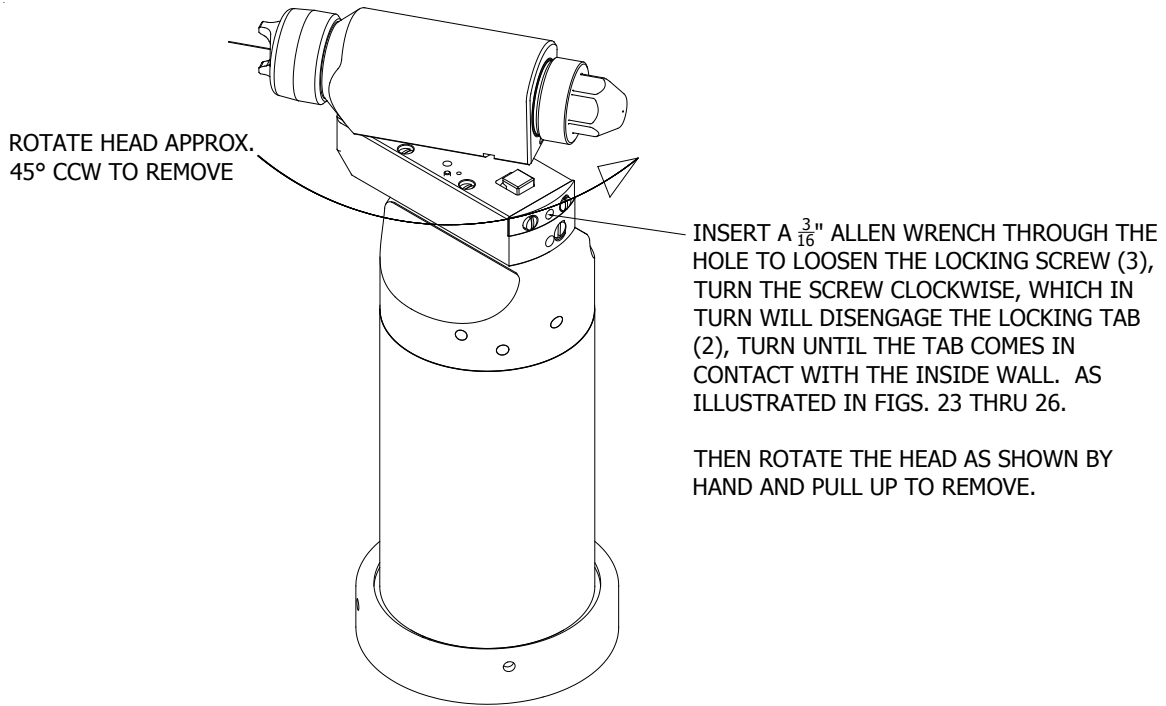
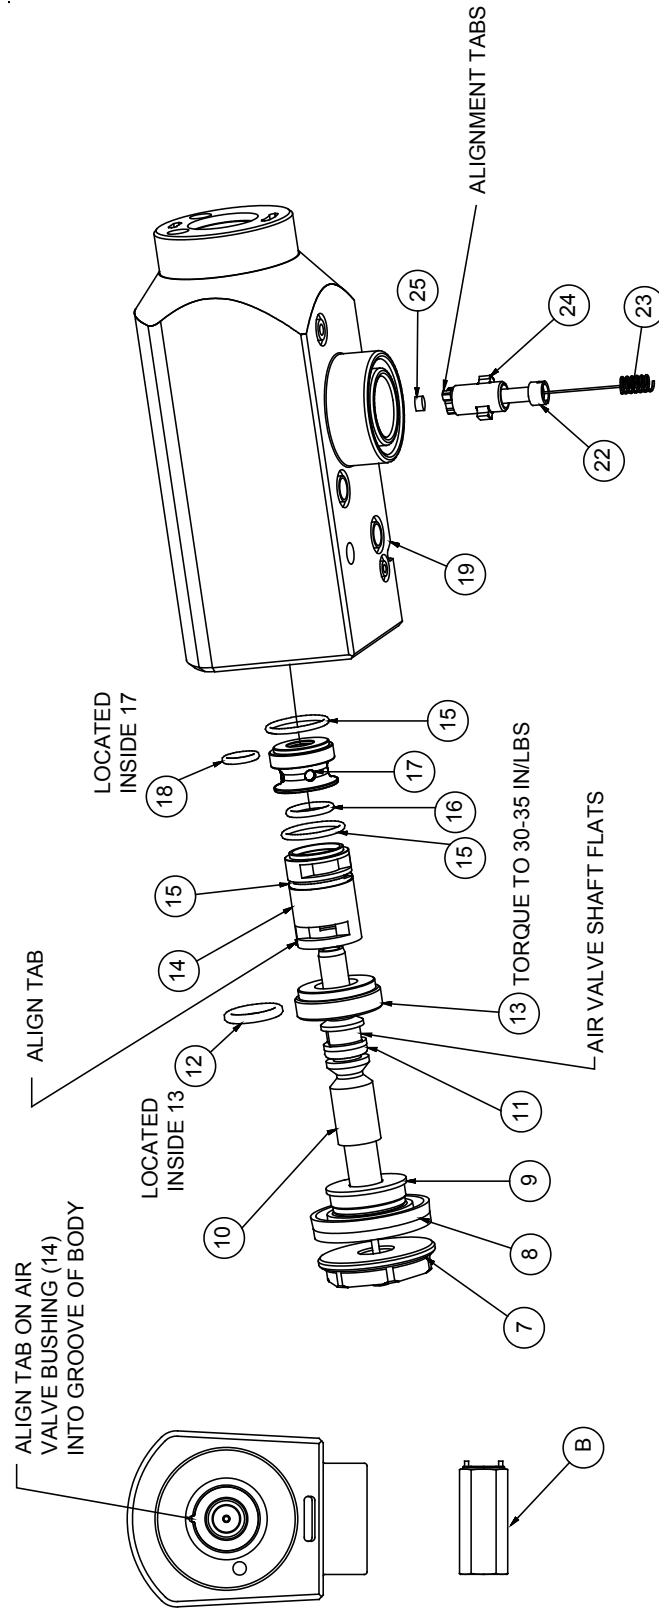
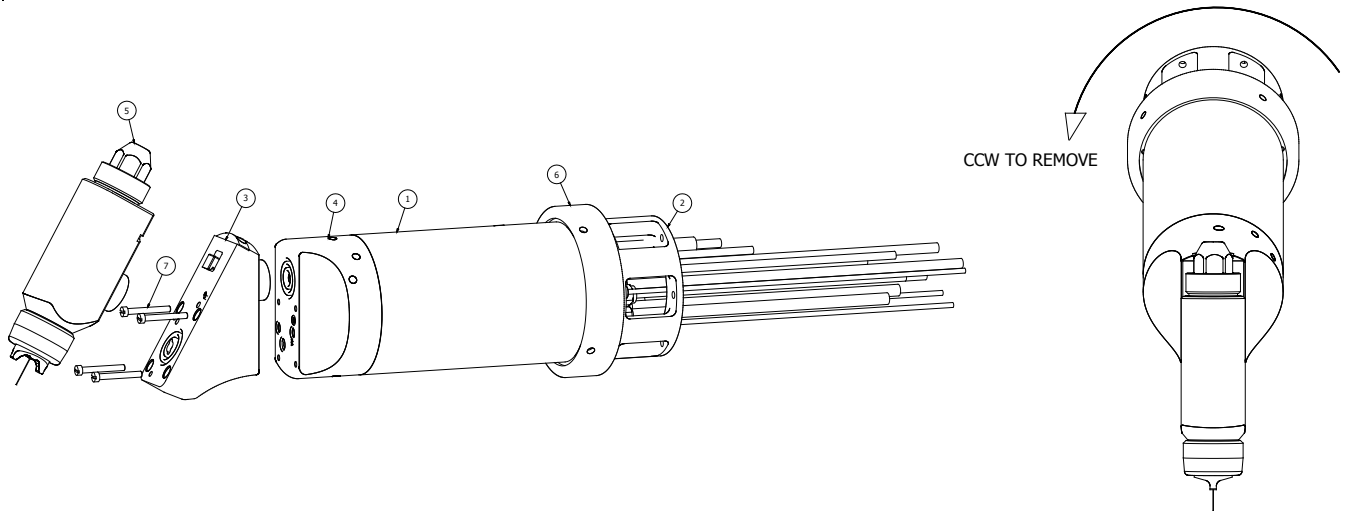

Figure 13a: Spray Head Removal
Figure 14: 79138 Evolver 303 Dual Purge Applicator Head Assembly
Figure 15: Evolver 303 Dual Purge 60° Single Head Applicator Assembly
Applicator Cleaning/Service (See Figures 13a and 13b)
The spray head can be removed from assembly as shown in Figure 13a for cleaning and service.
> At assembly, apply a small amount of dielectric grease to grooves in spray head and valve manifold to reduce high voltage breakdown. Excessive grease will not allow spray head [5] to seat fully against mounting block assembly [3] (see Figure 15).
(See Figures 13a, 13b, 14, and 15)
15. Re-attach spray head to manifold block by engaging the connection plug [24] (Figure 14) into the mounting block cavity [3] (Figure 15), and turn clockwise until head contacts stop pin on the block, as shown in Figure 13a.
16. Secure with locking tab by turning screw counter-clockwise (see Figure 13a).
(See Figure 14)
6. O-rings [12] and [18] must be installed inside their mating parts (see Figure 14).
8. Reassemble the remaining parts as shown in Figure 14 making sure that the alignment tab on the bushing [14] lines up with the align groove in the body [19].
79138 EVOLVER 303 DUAL PURGE APPLICATOR HEAD ASSEMBLY - PARTS LIST (Figure 14)
(See Figure 15)
4. Remove applicator from robot by turning the retaining ring [6] counter-clockwise from the manifold robot mounting plate [2] (see Figure 15).
5. Remove spray head [5] (Figure 15) as previously described in Figure 13a.
Spray Applicator Disassembly (See Figures 15, 16, and 17)
6. Remove the four (4) screws [7] from mounting block [3] and pull the block out of the upper manifold [4] as shown in Figure 15.
EVOLVER 303 DUAL PURGE 60° SINGLE HEAD APPLICATOR ASSEMBLY - PARTS LIST (Figure 15)